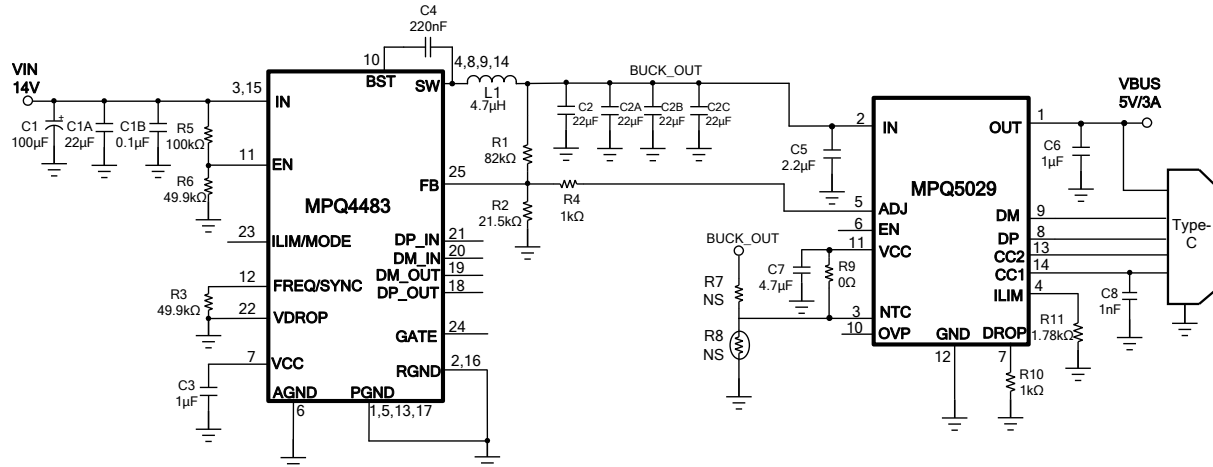

Figure 11: MPQ4483+MPQ5029 for Type-C Mode, DCP Mode without QC (without MPQ4483 GND Short-to-Battery Protection)
- 9) The recommended layout is based on the Typical Application Circuit shown in Figure 11 to Figure 14.